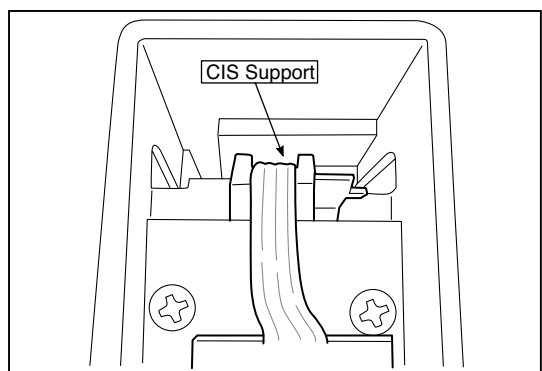

Fig.20
* The CIS Unit with a CIS Support (see Fig. 20) is located in the upper position.